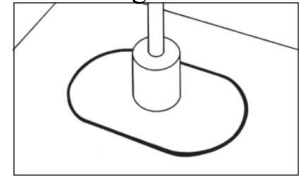

Figure 7
- Remove the tool after the cycle ends and immediately set a cooling clamp directly onto the center of the plate (Figure 7)